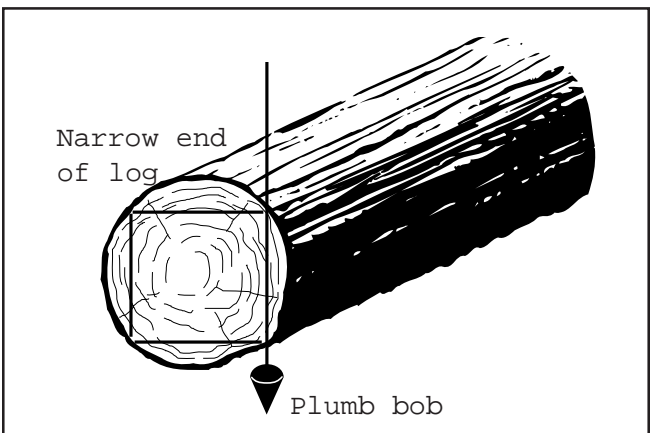

Figure 98—Lay out the dimensions of the beam on the small end on the log.
2. Using a level or a plumb bob (Figure 98), scribe a vertical line on the small end of the log to mark the depth to which you want to hew. Then, to make sure the log is large